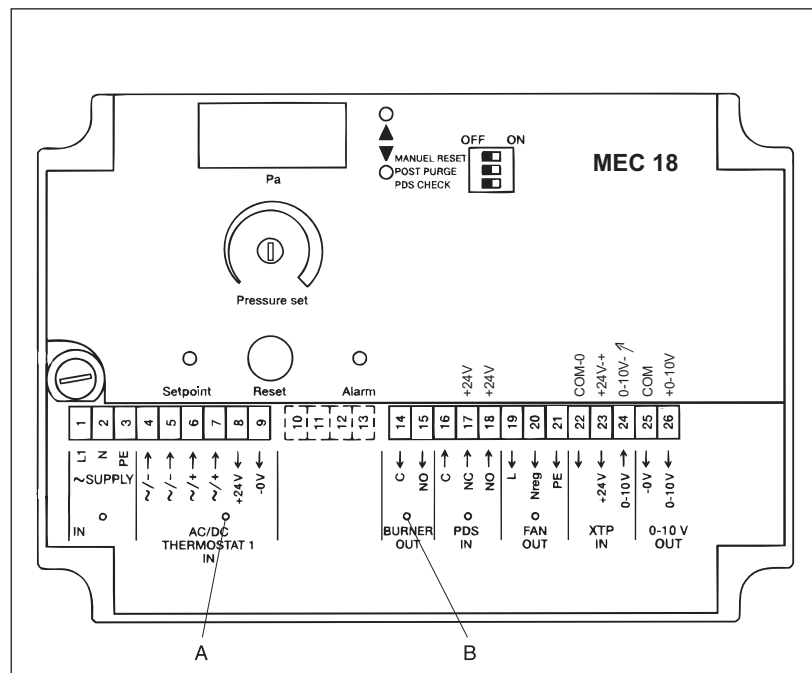

Fig. 14
2. Start the heating system and wait until the thermostat (fig. 14-A) closes and the pressure has stabilized (none of the yellow diodes are lit).
4. If used, check that the safety system disconnects the appliance (fig. 14-B). An error can be simulated by disconnecting the silicone tubing from the negative port on the transducer (XTP).